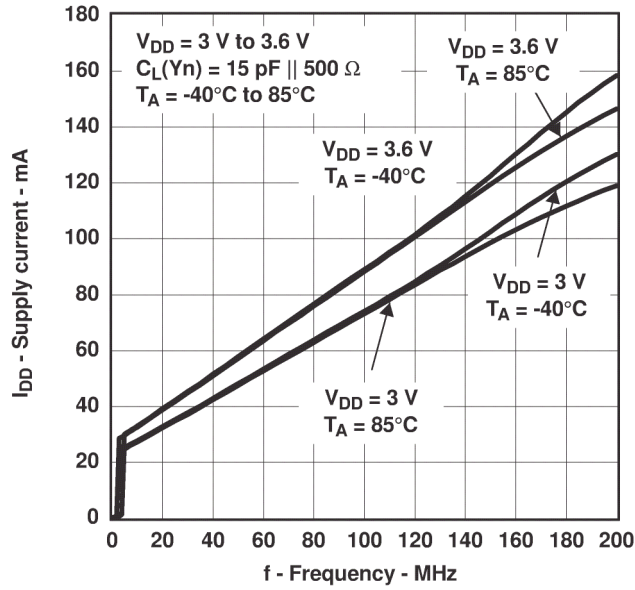

Figure 9-2. Supply Current vs. Frequency
(1) All typical values are at respective nominal V_{DD}.
(2) For I_{DD} over frequency see Figure 9-2.